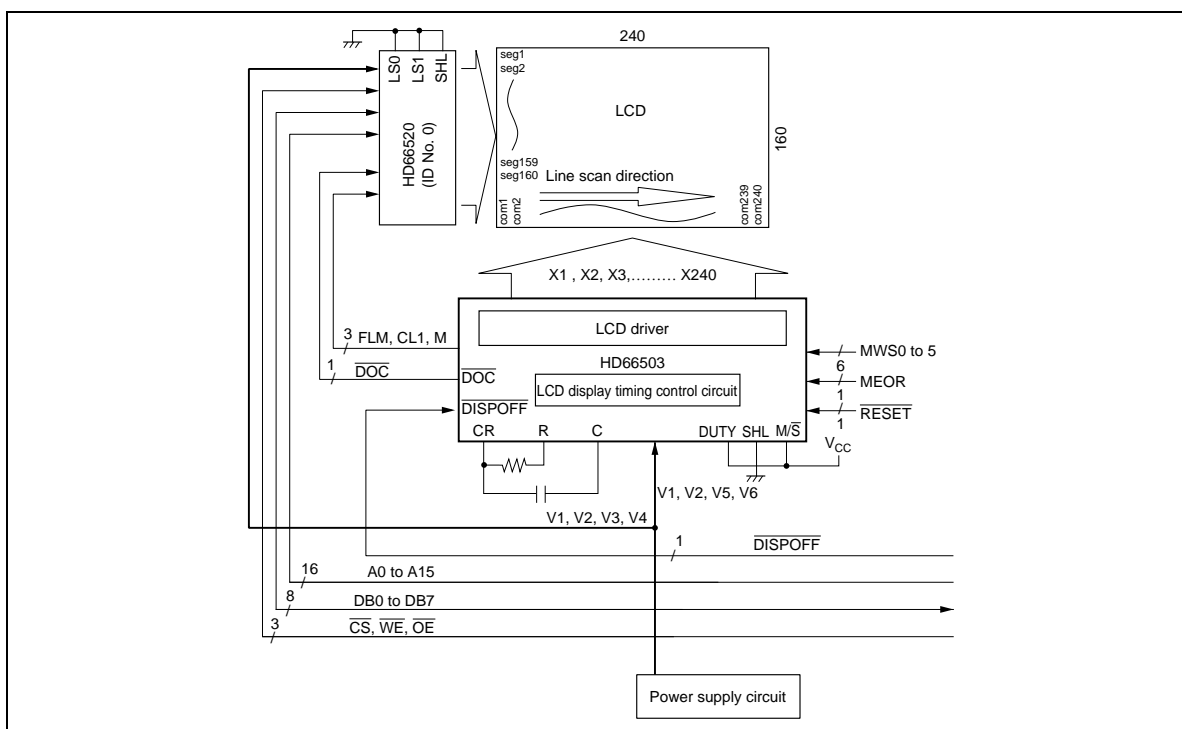

Figure 11 System Configuration (1)
Figure 11 shows a system configuration for a 240×160 -dot LCD panel using segment driver HD66520 with internal bit-map RAM. All required functions can be prepared for liquid crystal display with just two chips except for liquid crystal display power supply circuit functions. Refer to Timing Chart (1) for details.